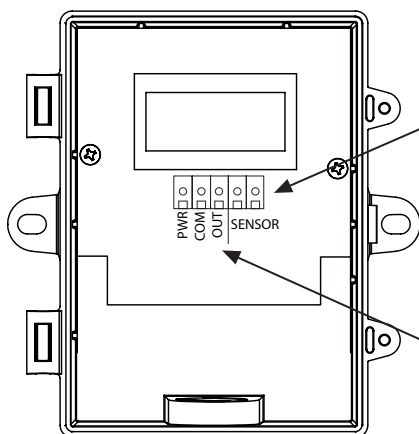

Figure 6 2 wire temperature sensor wiring to transmitter
- The temperature transmitter comes with the temperature sensor pre-wired to the transmitter board. If removal is required for installation then it may be re-wired as shown in Figure 6.